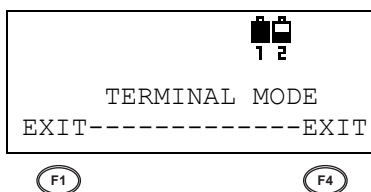

Figure 3-149. Exit Terminal Mode
4. To exit Terminal Mode, press **F1** (EXIT) and **F4** (EXIT) simultaneously until the screen changes (Figure 3-149).